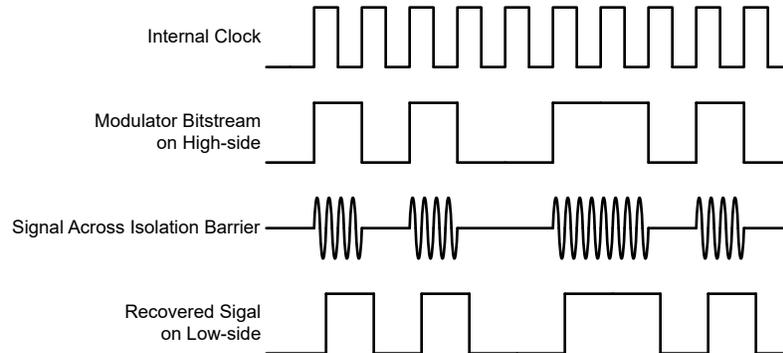

图 7-1. OOK-Based Modulation Scheme
The AMC1400-Q1 uses an on-off keying (OOK) modulation scheme, as shown in 图 7-1, to transmit the modulator output bitstream across the SiO₂-based isolation barrier. The transmit driver (TX) shown in the Functional Block Diagram transmits an internally-generated, high-frequency carrier across the isolation barrier to represent a digital *one* and does not send a signal to represent a digital *zero*. The nominal frequency of the carrier used inside the AMC1400-Q1 is 480 MHz.